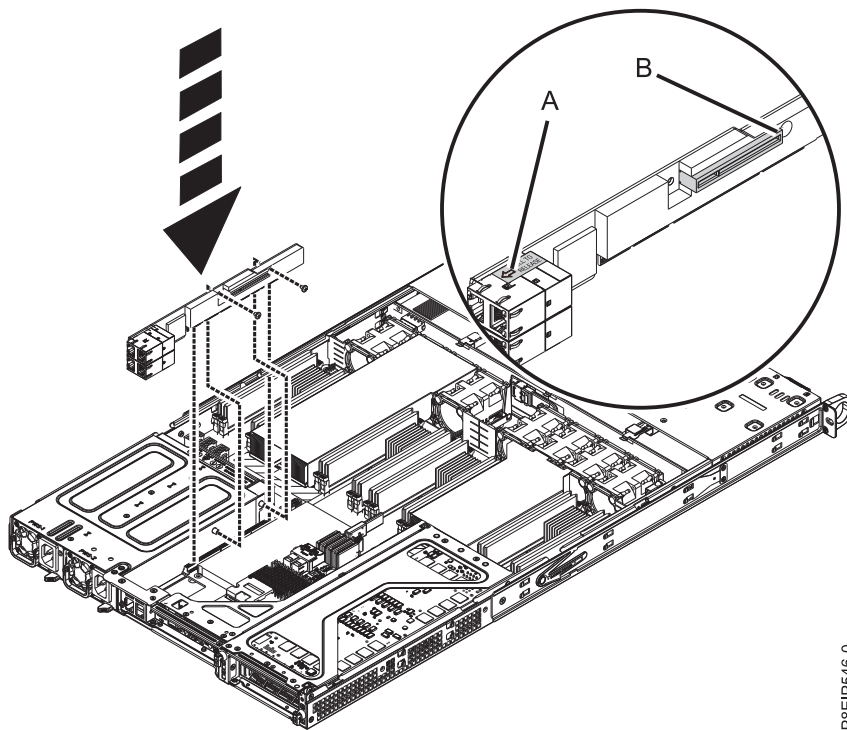

Figure 40. Replacing the PCIe riser screws
- b. Replace the two screws to secure the PCIe riser card to the chassis as shown in Figure 40.